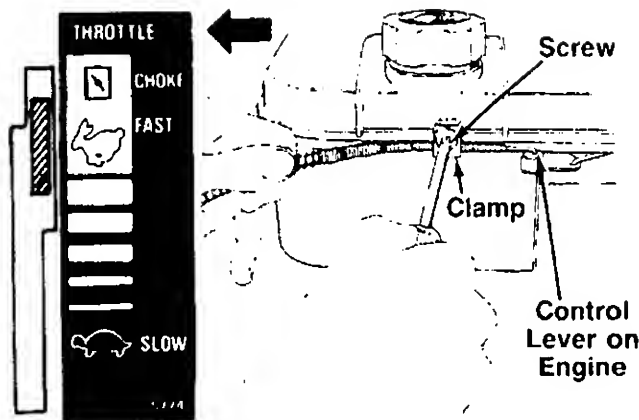

FIGURE 6A.—Model 434R
1. Push the throttle control lever on the handle all the way forward to CHOKE, then back it off two "clicks" (approximately 5/16"). See figure 6A.
2. The throttle control cable is attached to the upper handle. Route the throttle control cable under the lower handle and inside the handle mounting bracket. Hook the "Z" end of the throttle control cable into the hole in the control lever on the engine. See figure 6A.
3. Using a screwdriver, remove the screw on the cable clamp shown in figure 6A. Slip the control cable under the clamp. Replace the screw, but do not tighten (cable must still move freely beneath the clamp).
4. Push the control lever on the engine as far toward the rear of the engine as it will go. See figure 6A. Pull the throttle control cable toward the rear of the engine to remove any slack in the cable as you tighten the screw.